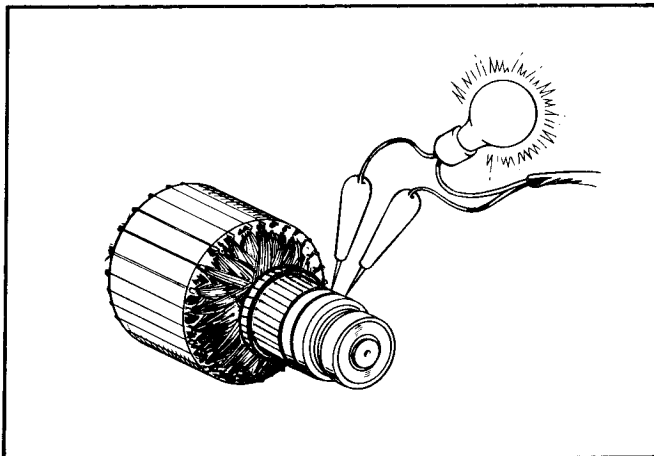

FIGURE 28. TESTING FOR OPEN ARMATURE
**To Test the AC Portion of the Generator:** Use a series test lamp. Place one test prod on a slip ring and the other test prod to the other slip ring. The test lamp should light. If the generator has four slip rings, there are two separate AC windings. Test between the two rings nearest the ball bearing. In each case the test lamp should glow. Failure of the lamp to light indicates an open circuit. On the 120/240 volt reconnectable, the test is made between the two center rings. The test lamp should not glow. If the test lamp does glow, a short circuit between the separate windings is indicated. See Figure 28.